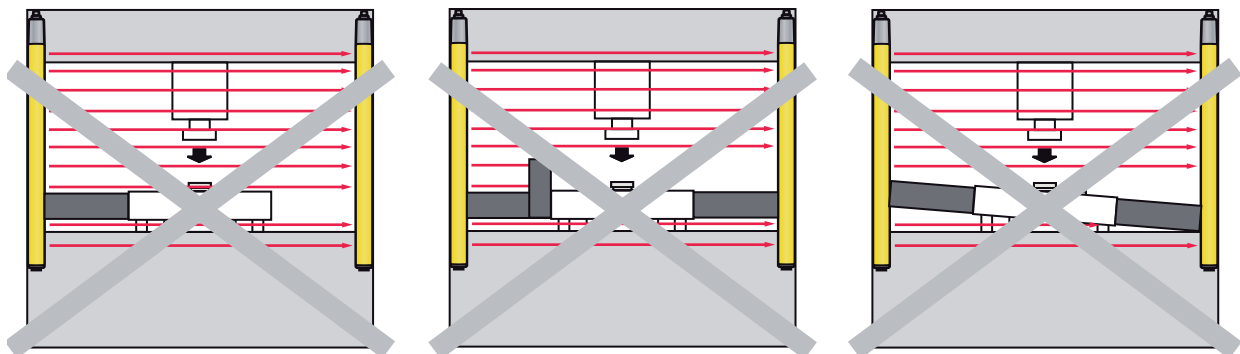

Figure 4.2: Fixed blanking: prevention of “formation of shadows”
- No “shadows may form” in the protective field (see figure 4.2).